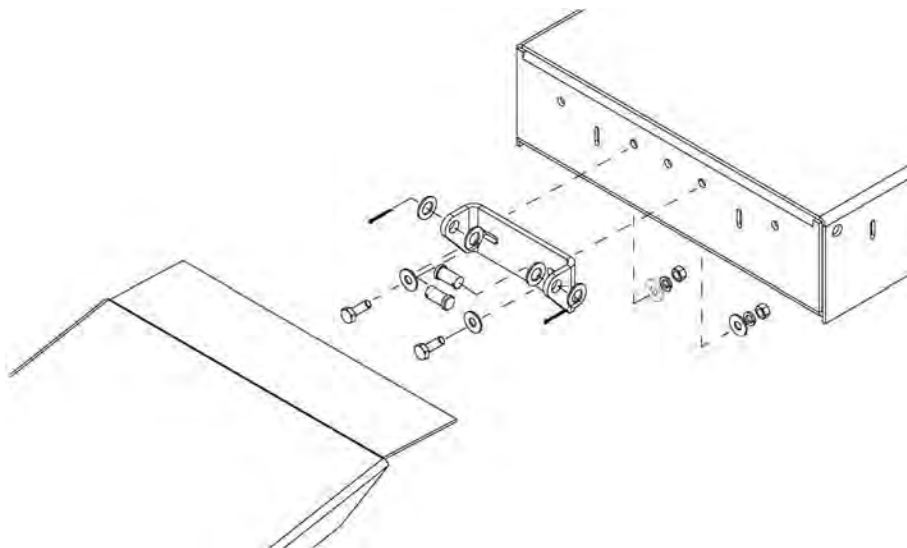

Figure 25 – Approach Ramps Installation
2. Install the mounting bracket and then the rear approach ramps using the Approach Ramp Pins located in the accessory box, and the hex head bolts, flat washers, lock washers, hex nuts and cotter pins located in the hardware kit. (See **Figure 25**)